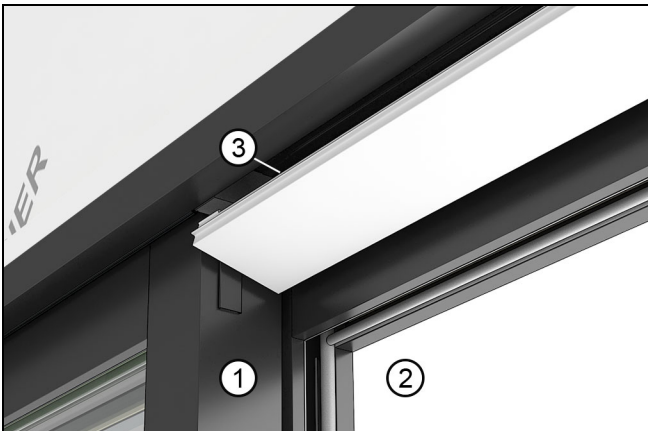
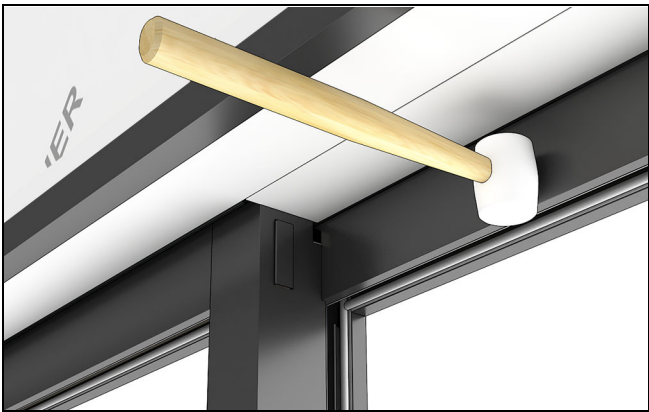

Figure 109 Exterior frame covers
Figure 111
2. Starting from the exterior, install the head jamb covers. The covers have a leg that fits into a kerf on the jamb weather strip or a kerf in the frame itself. Fit the leg on the cover into the kerf on the jamb and rotate the cover into place. You may need to seat the cover with a rubber mallet. See Figure 109, Figure 110, and Figure 111.